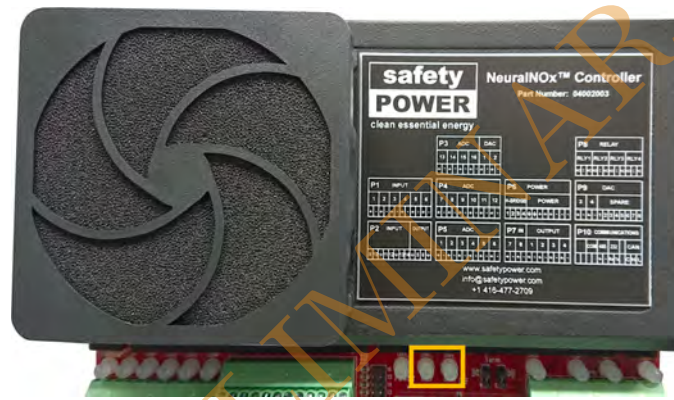

Figure 7.1: System controller status LEDs, shown within the yellow box
- b. If loss of communication is observed, operator must open the CP100 control panel and look to see if the red or green LEDs on the controller are flashing (Figure 7.1).